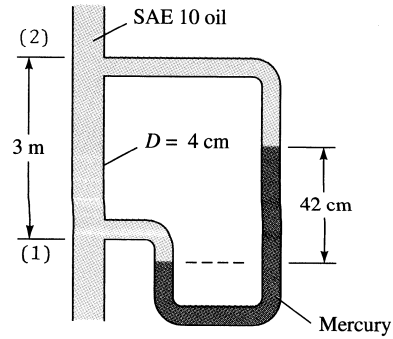

Fig. P6.30
6.30 SAE 10 oil at 20°C flows through the 4-cm-diameter vertical pipe of Fig. P6.30. For the mercury manometer reading $h = 42$ cm shown, (a) calculate the volume flow rate in m^3/h , and (b) state the direction of flow.